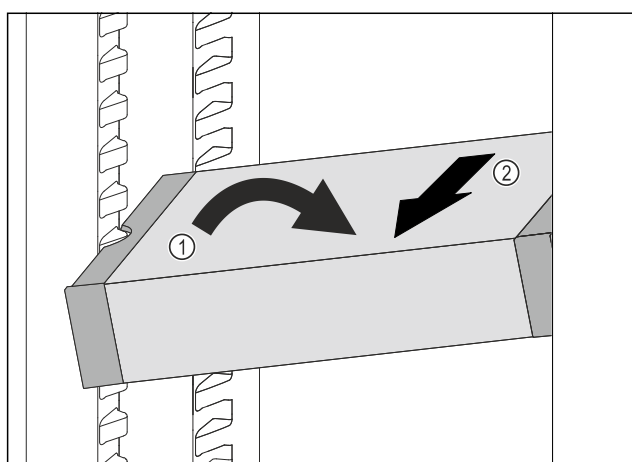

Fig. 41
- Set VarioSafe in refrigerator compartment at an angle. Fig. 41 (1)
- Take VarioSafe out to the front. Fig. 41 (2)